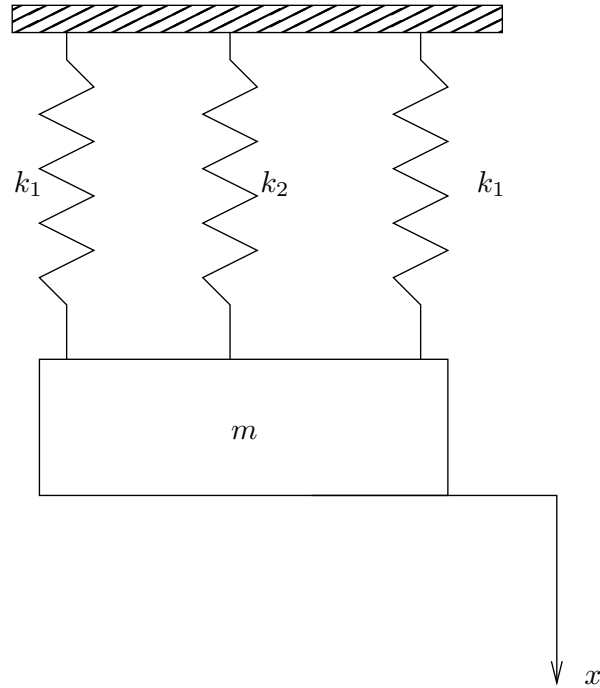

Figure 2: Hollow Cylinder
2. Consider the system shown in Figure 2. For this system